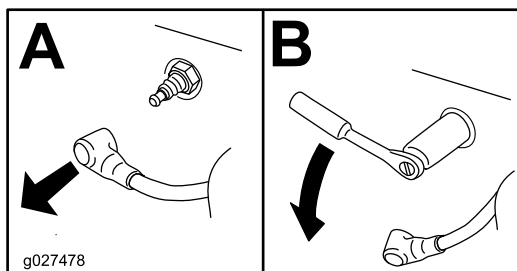

Figure 39
4. Remove the spark plug (Figure 39).